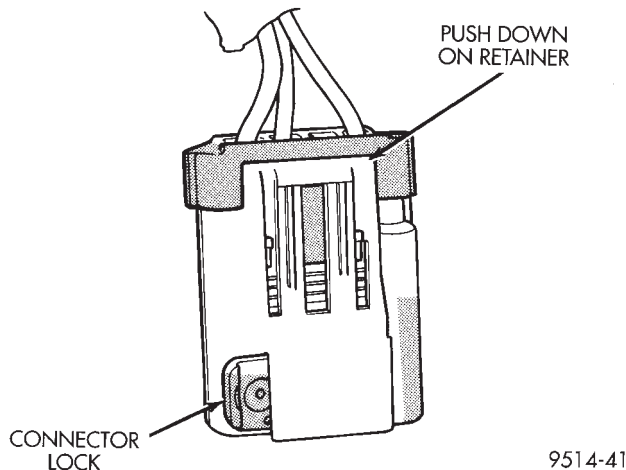

Fig. 47 Module Connector Retainer and Lock
(8) Push down on connector retainer (Fig. 47) and pull connector off module.
(9) Use a transmission jack to support fuel tank. Remove bolts from fuel tank straps.
(10) Lower tank slightly. Carefully remove filler hose from tank.
(11) Lower the fuel tank. Remove clamp and remove fuel filler tube vent hose. Remove fuel tank from vehicle.